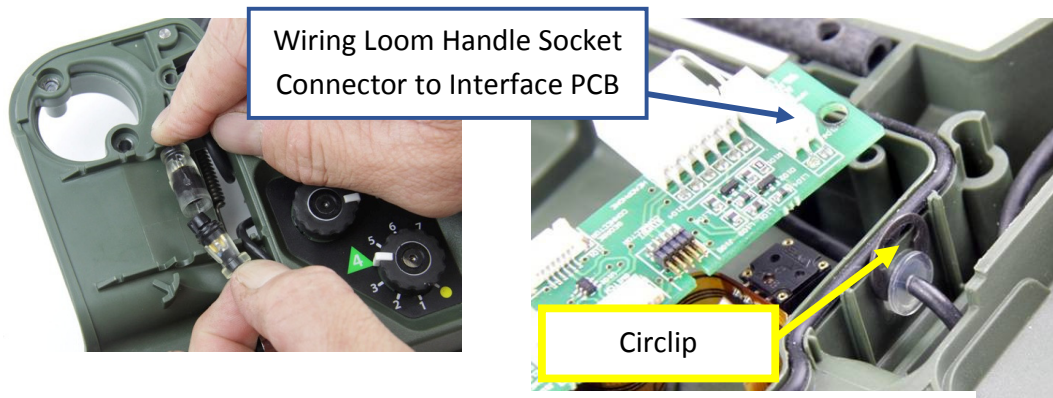

Figure 99: Wiring Loom Handle Socket
- Disconnect the wiring loom handle socket from the interface PCB. Figure 99.